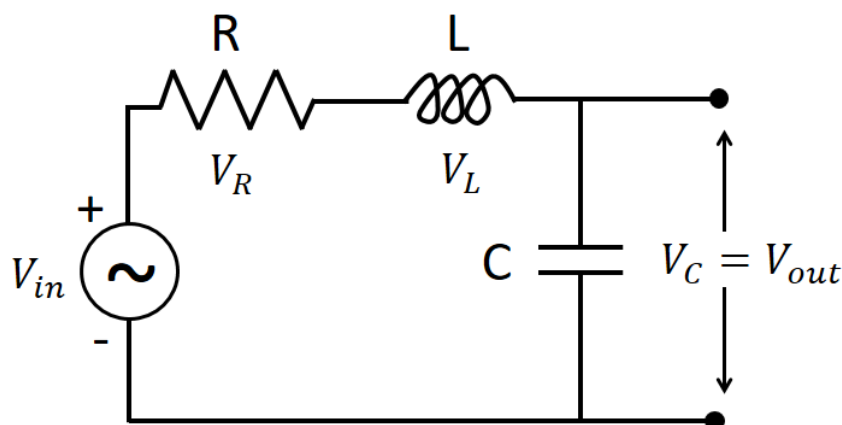

Fig 3.1: Circuit diagram of the RLC experiment
1. Connect the circuit as per Fig. 3.1 on breadboard using connecting wires.
3. Connect one channel of the oscilloscope across the resistor (R) and the other channel with input.